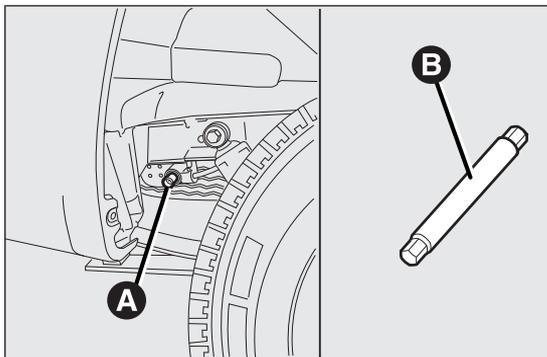
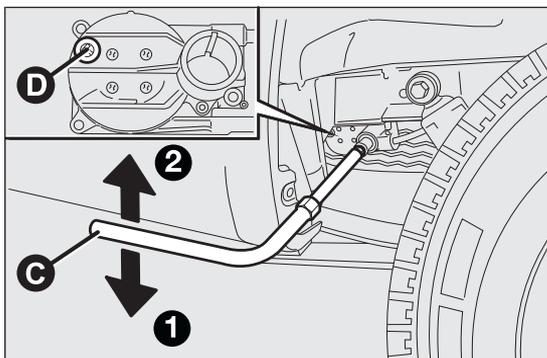

fig. 171
fig. 172
- for all versions, when gaining access through the vehicle's right rear wheel arch, adjust the screw A fig. 171 for the wheel retaining device, using the wrench provided with the extension/adaptor B;
- turn wrench C fig. 172 anticlockwise 1 to allow the lowering of the spare wheel;
- introduce the supplied wrench C fig. 172 with the suitable extension B fig. 171 on the screw A fig. 171 of the spare wheel housing manoeuvring device and turn clockwise 2 to lift the spare wheel back up until it is fully supported in its housing beneath the floor pan, checking that the attachment reference D fig. 172 appears in the window on the device.